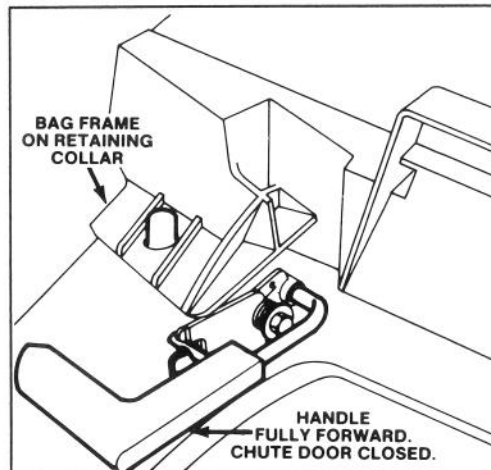

Figure 5
4. **MULCHING**—In summer when grass grows slower and is drier, mulch by removing the grass bag and closing the discharge door (Fig. 5).
5. EMPTYING BAG — Release control bar and wait for blade to stop. For protection, always keep hands and feet away from mower housing when engine is running. Move chute door handle forward to engage the locking pin with catch (Fig. 5). Grasp handle at front and rear of bag and lift bag off mower. Gradually tip bag forward to empty clippings.